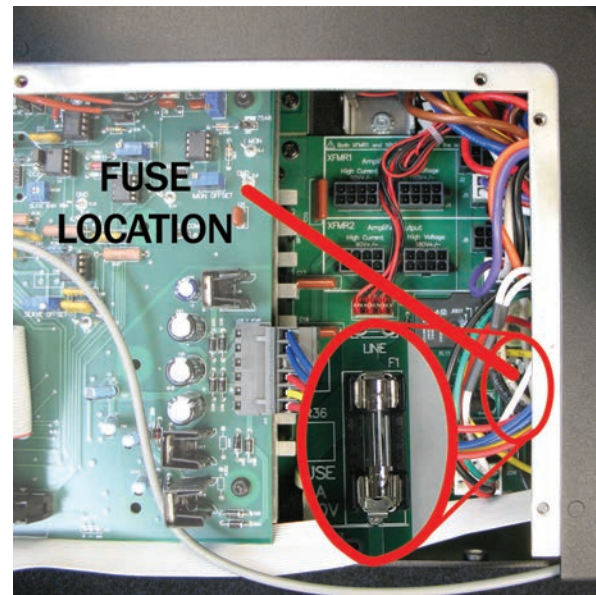

Figure 8.2 – Fuse F1 Location
1. Turn Off (O) the amplifier and disconnect the AC mains.
3. Locate Fuse F1 (see **Figure 8.2**). Remove fuse and inspect. Replace, if necessary, with same type fuse (T1.6A L 250V).